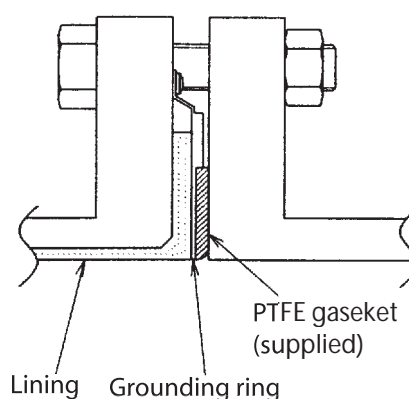

Figure 2-28 Installation using Non-SUS material grounding ring
- Install the detector as shown in Figure 2-28. See Table 2-5 on page 2-26 for the appropriate fastening torque.